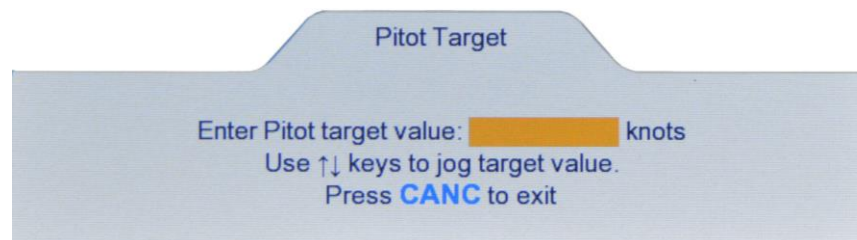
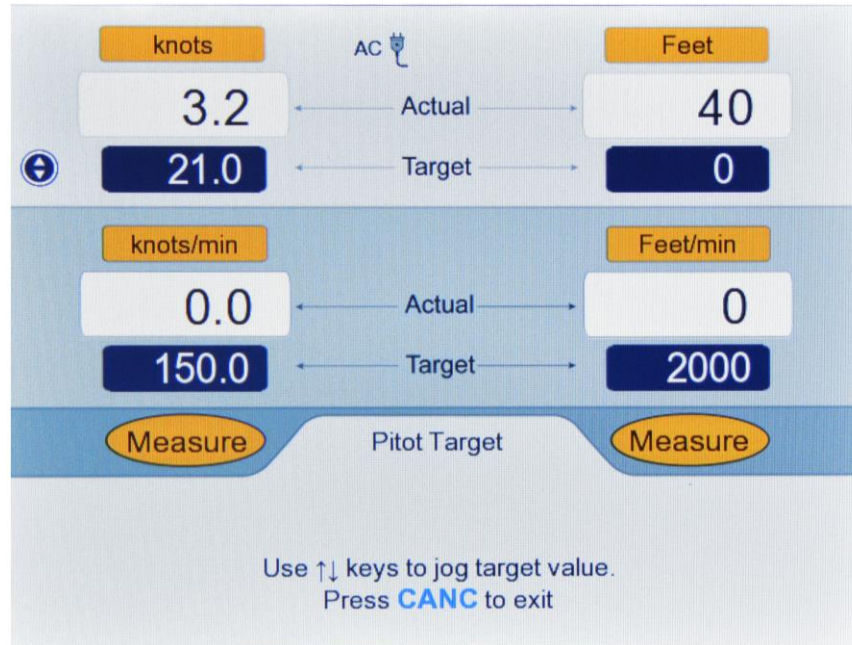

Figure 3.7 : Pitot Target value
Figure 3.8 : Jog the Pitot Target value
The Pitot Target value can be changed only if the key# symbol (2) is displayed to the left of the Pitot Target value field. Press key '2' on the keypad and the Lower section of the display will appear as shown in Figure 3.7 below.
Lower screen appears as in Figure 3.7 above, pressing the **Up-Arrow** key will make the screen appear as shown in Figure 3.8 below.